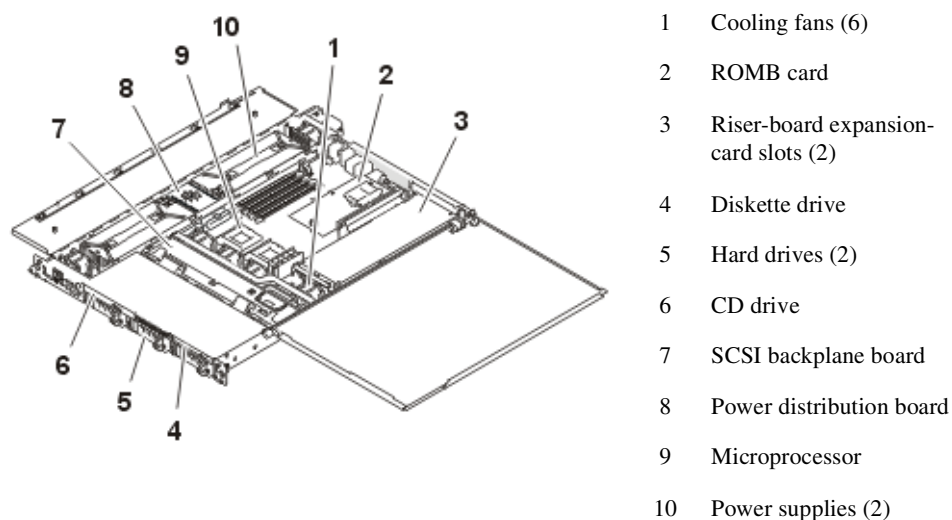

Figure 4-3: System Interior
5. Lift the right door. Be sure to close the right door first and then the left door. Figure 4-3 shows the system cover bezel removed to provide an interior view of the system.